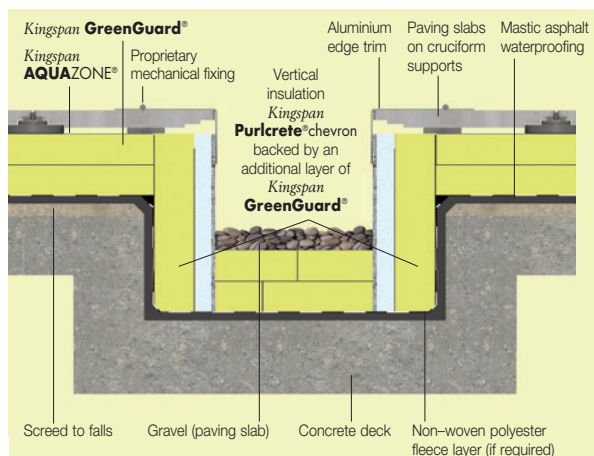
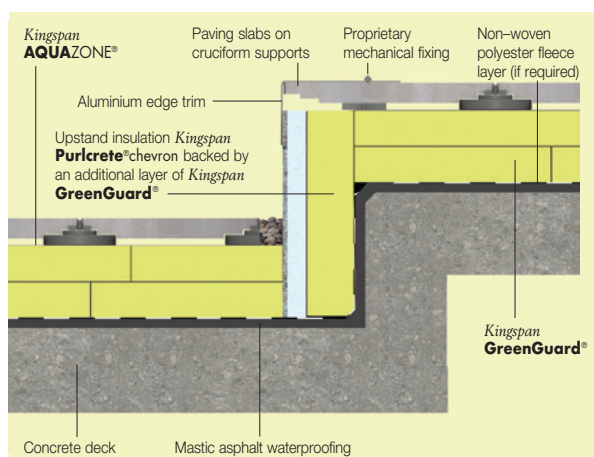

Figure 9 – Internal Gutter
Figure 11 – Change in Level
- Where an Internal gutter is formed, vertical insulation should be used to reduce thermal bridging, using **Kingspan Purlcrete**[®]chevron with a separate backing layer of **Kingspan GreenGuard**[®] (see Figure 9). A similar approach can also reduce losses where a change in levels is required (see Figure 11).